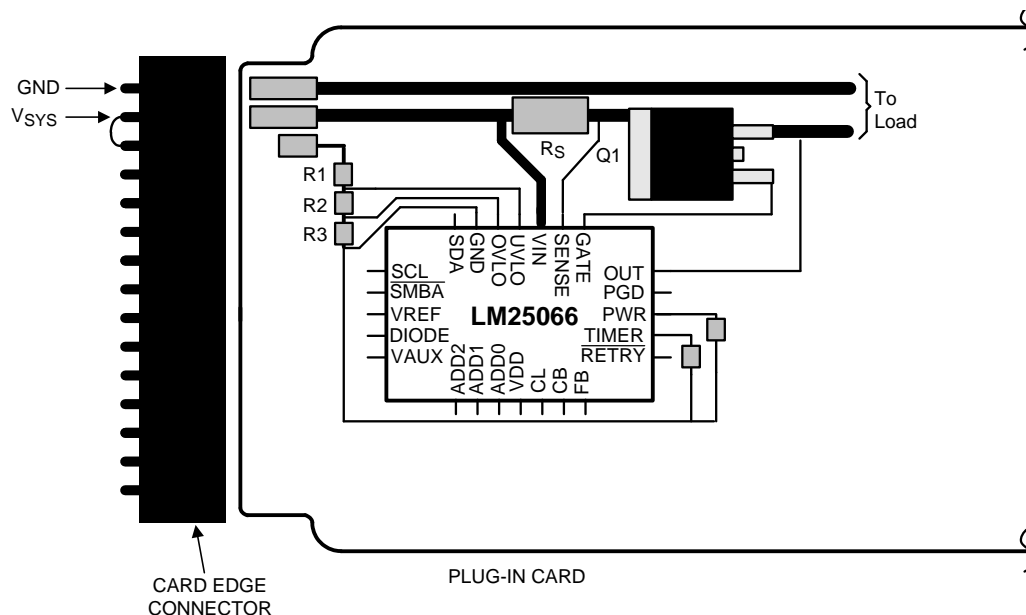

Figure 48. Recommended Board Connector Design
- The board's edge connector can be designed such that the LM25066A detects via the UVLO/EN pin that the board is being removed and responds by turning off the load before the supply voltage is disconnected. For example, in Figure 48, the voltage at the UVLO/EN pin goes to ground before V_{SYS} is removed from the LM25066A because of the shorter edge connector pin. When the board is inserted into the edge connector, the system voltage is applied to the LM25066A's VIN pin before the UVLO voltage is taken high, thereby allowing the LM25066A to turn on the output in a controlled fashion.